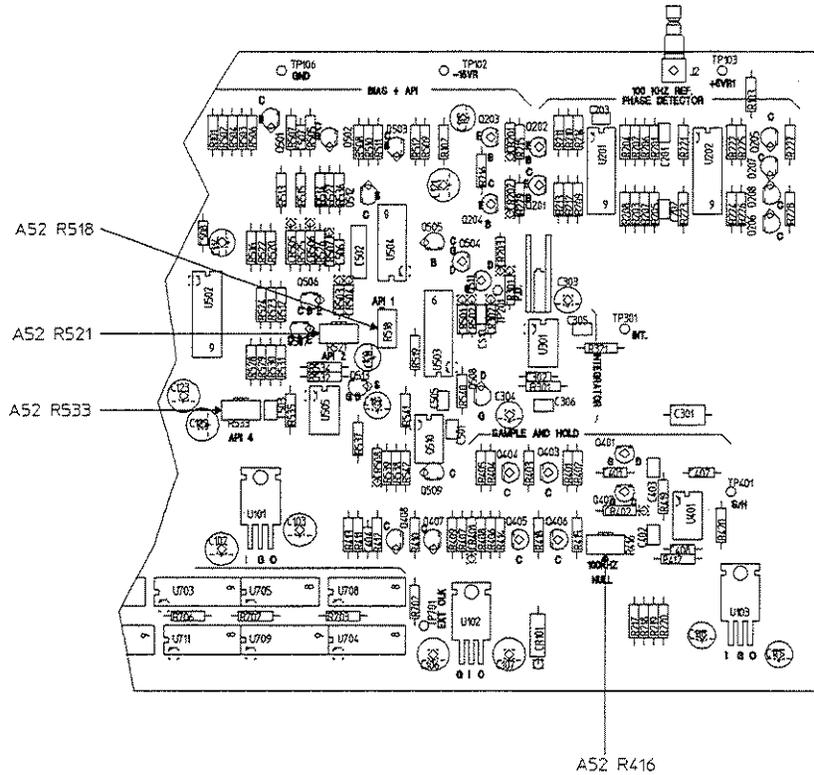
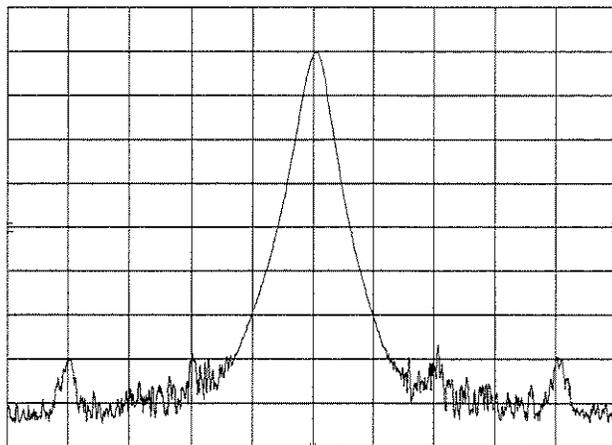

Figure 1-3. A52 Fractional-N Component Locator
Figure 1-4. Spurs Out of Adjustment
- Adjust A52 R416 (see figure 1-3) for a minimum spur level at approximately 400.2 MHz (figure 1-4 shows the spurs out of adjustment).